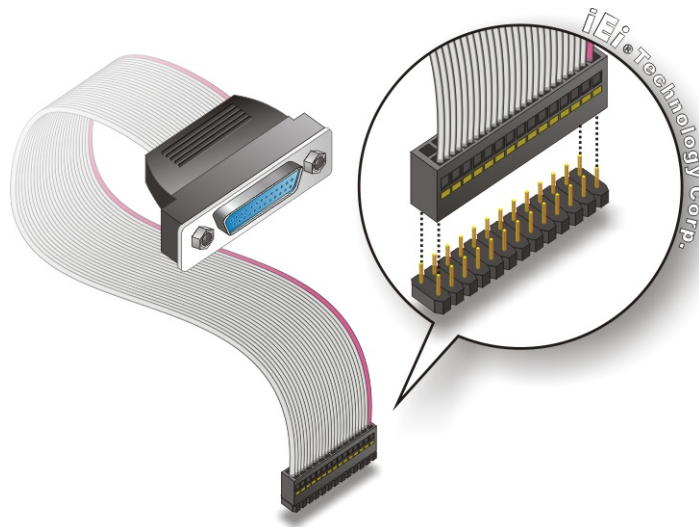

Figure 5-20: LPT Cable Connection
Step 2: Align the connectors. Correctly align pin 1 on the cable connector with pin 1 on the PCIE-9452 LPT box-header connector. See Figure 5-20.
Step 3: Insert the cable connectors Once the cable connector is properly aligned with the 26-pin box-header connector on the PCIE-9452, connect the cable connector to the on-board connector. See **Figure 5-20**.